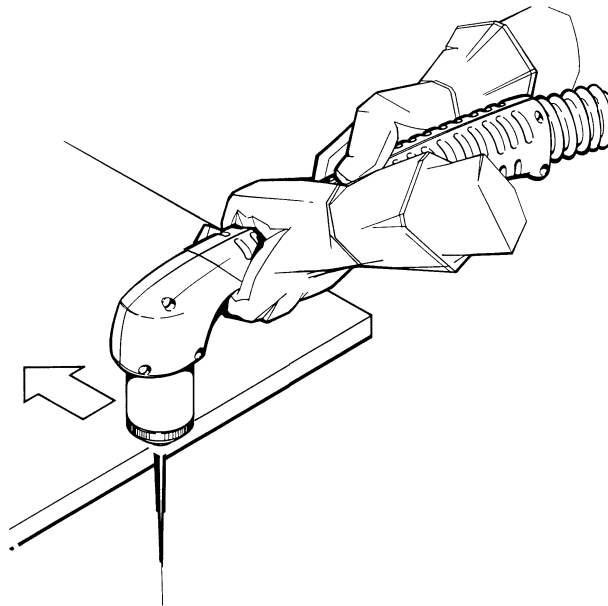

Figure 4-5 Starting a Cut
1. Start cutting from the edge of the workpiece (Fig. 4-5) unless you must pierce. For tips on piercing, see *Piercing*, page 4-15.